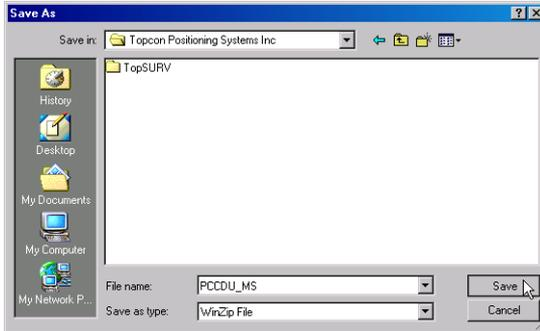

Figure 1-3. Select a Destination for pccdu_ms.zip
4. In the **Save As** dialog window, specify the desired destination (disk drive/folder) for the archive `pccdu_ms.zip` (Figure 1-3).